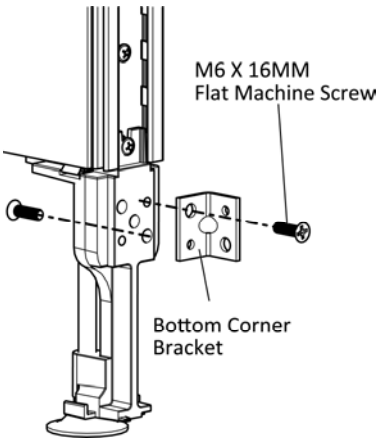

Figure 3
- Position and securely fasten bottom corner bracket into panel leg of the third panel with two M6 X 16MM Flat Machine Screws, (Figure 3).